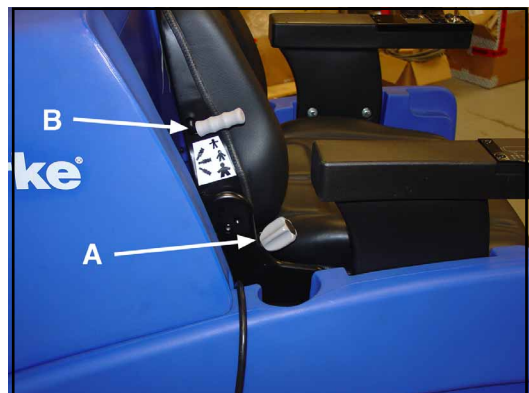

Figure 20
2. To adjust the angle of the back support portion of the seat, turn the lever located in the middle right position of the seat. Turning this clockwise will make the seat more vertical. Turning the knob counterclockwise will tilt the seat back. See figure 20 A.
3. To adjust the suspension of the seat for operator comfort, use the lever on the side of the back support section of the seat. This has three positions. The upper position is for light weight operators. The middle position is for medium weight operators. The bottom position is for heavy weight operators. See figure 20, B. **NOTE: The lever must be pressed firmly to change positions.**